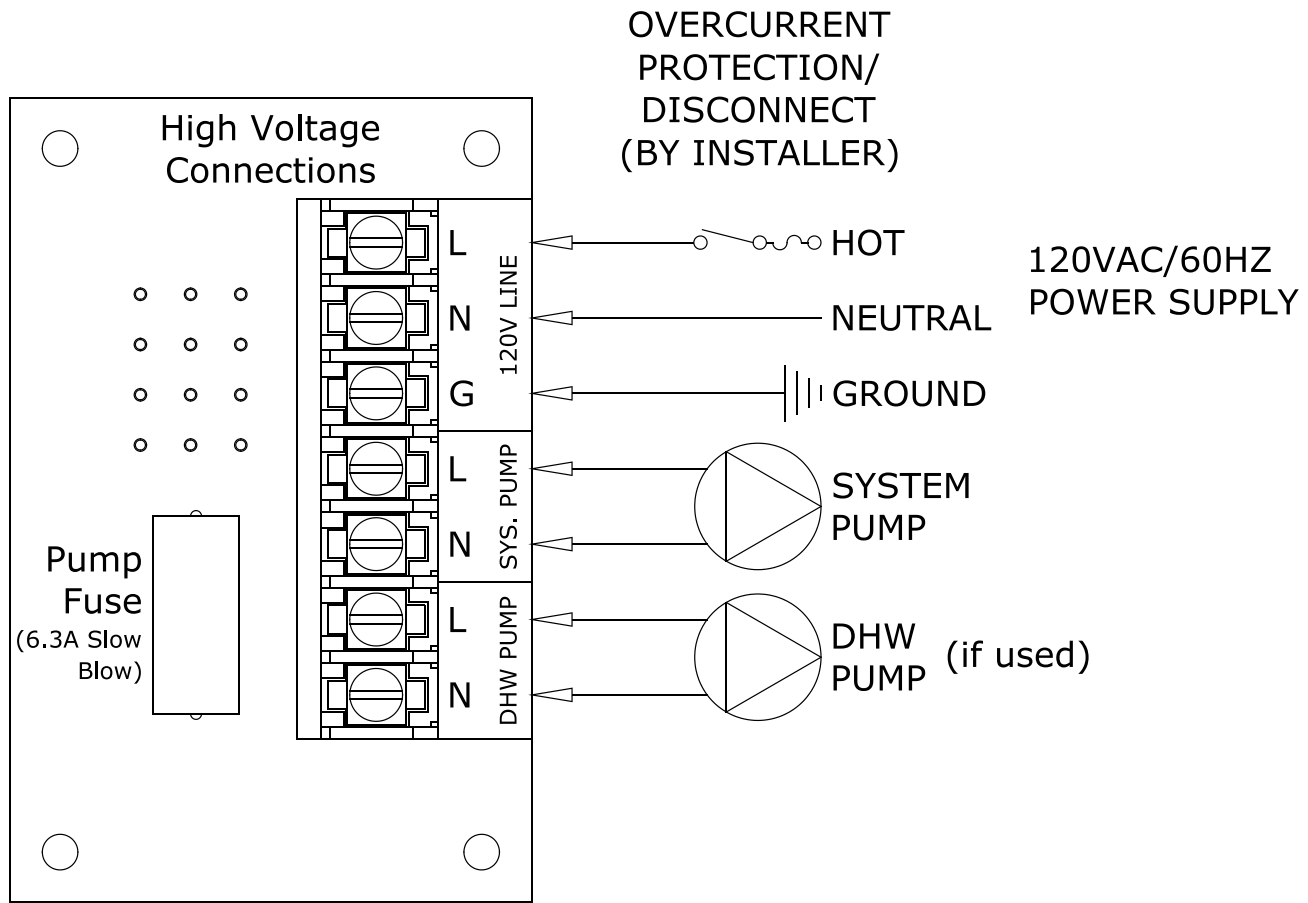

Figure 10.2: High Voltage PCB Terminal Connections
1. Line Voltage (120 VAC) Field Connections – See Figure 10.2 for line voltage connections. Provide a dedicated circuit for the boiler of 15A or greater. A service switch is recommended and is required by many local codes. Locate this switch in accordance with local codes or, in the absence of any, in a location where it can be safely accessed in an emergency involving the boiler. All 120VAC connections to the boiler itself are made on the terminal strip on the high voltage PCB located on the left side of the wiring compartment. From top to bottom, the connections on the terminal strip are: